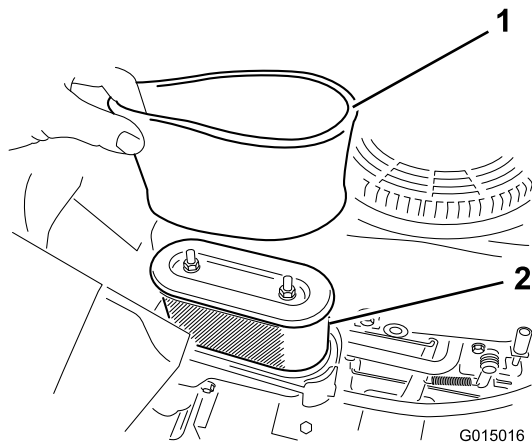

Figure 27
- Carefully remove the foam and paper filter elements from the air cleaner housing (Figure 27).
1. Install the foam filter onto the paper filter (Figure 27).